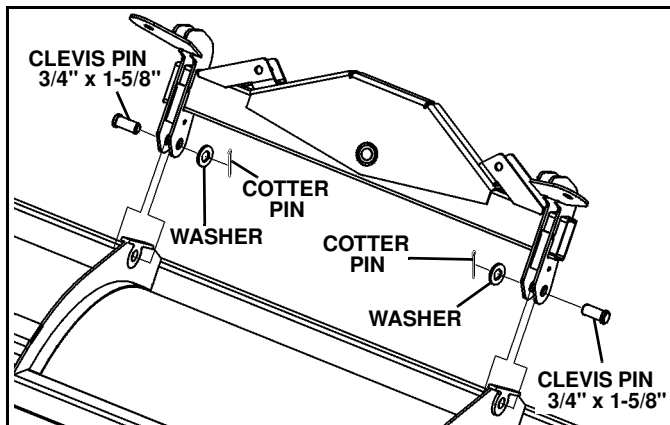

Figure 1-2
4. Place swing frame on blade, positioning the two inside ribs between the swing frame lugs. Insert a 3/4" x 1-5/8" clevis pin from blade parts bag to fasten each side. (See Figure 1-2).